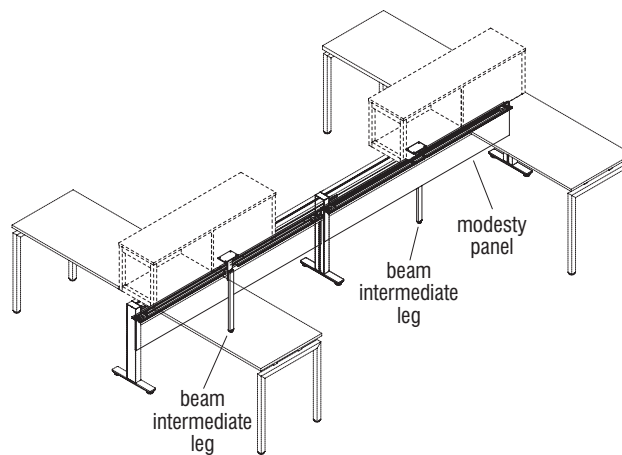

Figure 46
- Care must be taken when installing rail assembly components specified with storage, beam intermediate legs, and modesty panels because the cutout in the bottom beam horizontal is offset to one side to ensure it doesn't interfere with modesty panels. If installer does not follow assembly instructions properly, some rails may have the intermediate leg in front of the modesty panel and other rails may hide the intermediate leg behind the modesty panel (Figure 46).